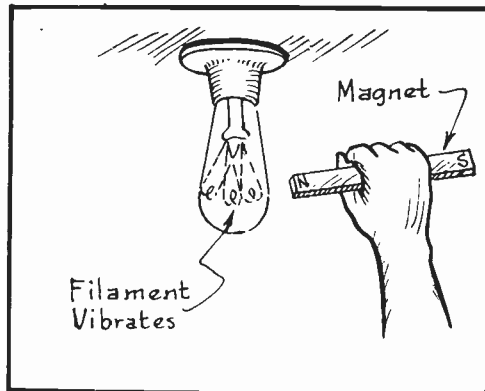

Fig. 2
4. - SHOULD THE LAMP FILAMENT UNDERGO A VIBRATIONAL MOVEMENT AS SHOWN IN FIG. 2 WHEN THE MAGNET IS SLOWLY BROUGHT TOWARDS IT, THEN THE TEST DEMONSTRATES THAT AN ALTERNATING CURRENT IS FLOWING THROUGH THE CIRCUIT.